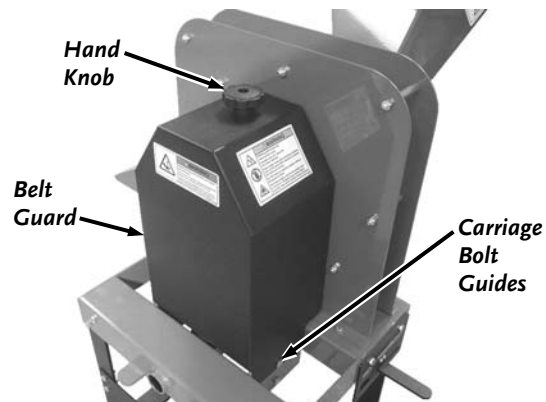

Figure 11
1. Remove the Hand Knob from the top of the Belt Guard and remove the Guard (Figure 11).
3. With the help of another person to steady the Chipper as you position the DR Field and Brush Mower; line up the DR Field and Brush Mower Mounting Pin with the Mounting Hole in the Chipper Frame. Push the DR Field and Brush Mower until the Pin is all the way into the Mounting Hole (Figure 11).
NOTE: There are slots at the bottom of the Belt Guard on either side. These slots must slide over the Carriage Bolt Guides that are mounted to the inner Frame Supports of the Chipper (**Figure 11 on previous page**).